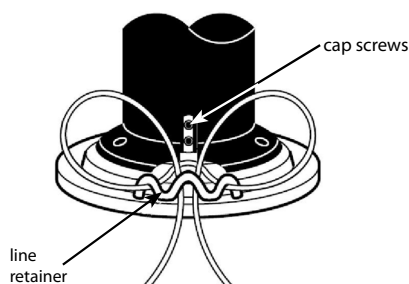

Figure 12: Threading trimmer line through center hold.
4. Next, take the ends of the line, cross over the line retainer, and thread the ends through the center hold. **SEE FIGURE 12.**